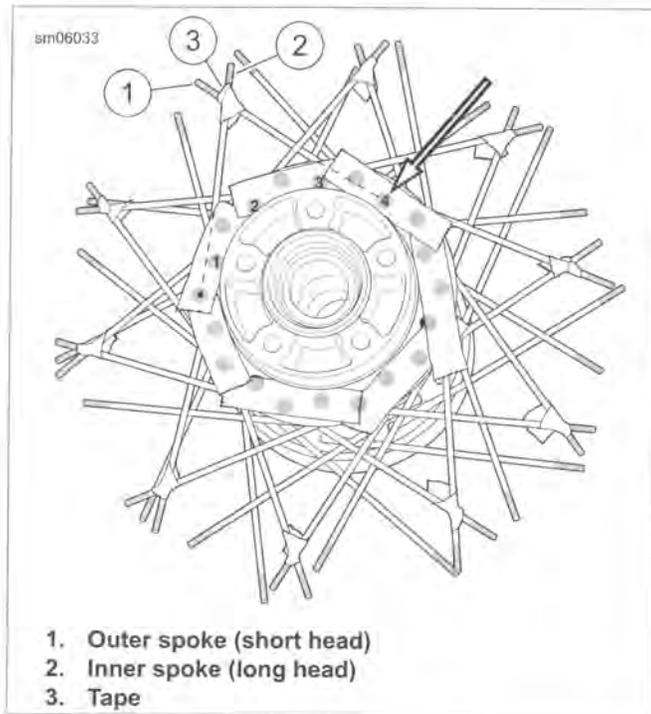

Figure 2-20. Bundling Spokes
See Figure 2-20. Tape placed across brake disc flange and spoke heads will hold spokes up away from lower row of spokes, making it easier to gather upper spokes.
6. See Figure 2-20. Group upper spokes (brake-side) into bundles of two as shown. Join an outer spoke (1) with the inner spoke (2) that is located four places clockwise and secure with tape (3) approximately 1 in. (25 mm) from threaded end.